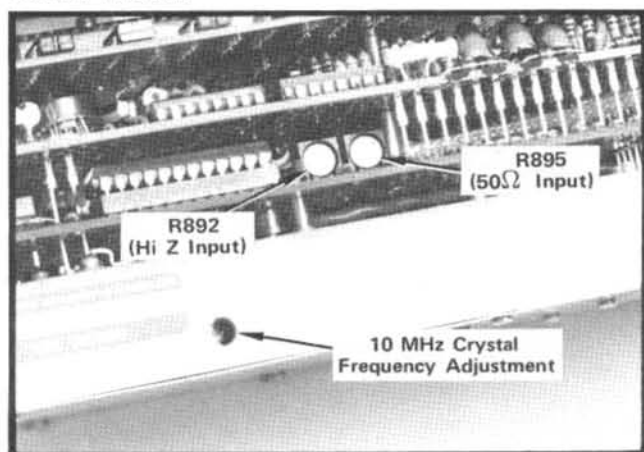

Fig. 4-2. Calibration adjustment locations for the Reference Oscillator and Calibrator.
6. Set the crystal frequency, with the adjustment illustrated in Fig. 4-2, so the calibrator frequency is within specifications.
3. Calibrate the reference oscillator frequency to 10.0000 MHz \pm 20 Hz with the crystal adjustment illustrated in Fig. 4-2.
f. Calibrate the output level of the Calibrator to the reference level, by adjusting R892 (Fig. 4-2).
k. With pin B13 shorted, adjust the calibrator output with R895 (Fig. 4-2) until it equals the reference level of the signal source.